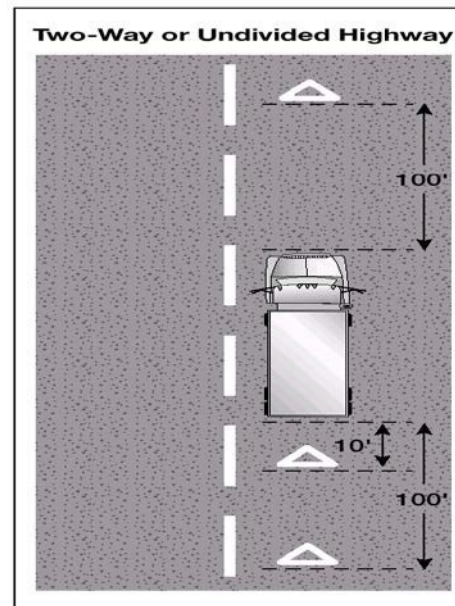

Figure 2.9
- ☐ If you stop on a two-lane road carrying traffic in both directions or on an undivided highway, place warning devices within 10 feet of the front or rear corners to mark the location of the vehicle and 100 feet behind and ahead of the vehicle, on the shoulder or in the lane you stopped in. See Figure 2.9.